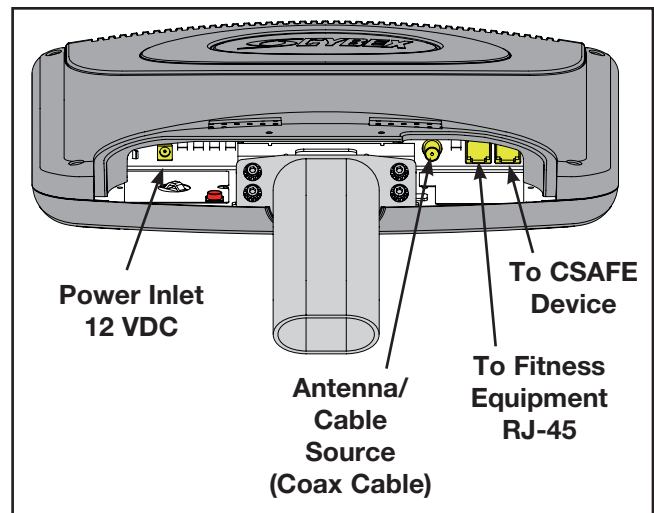

Figure 21
- F.** Insert the power cable, coax cable and RJ-45 cable into the monitor as shown in Figure 21. **NOTE:** Use of the CSAFE port is optional and requires a CSAFE cable and device.